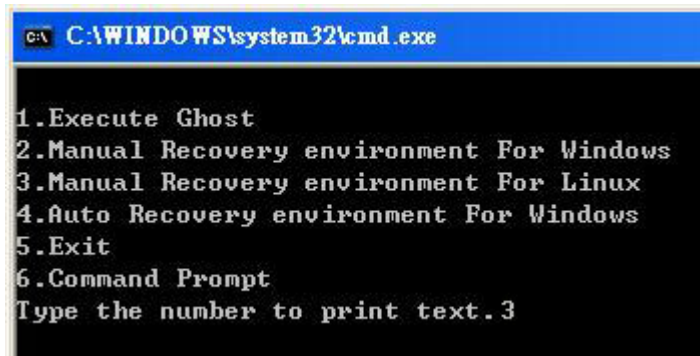

Figure D-30: Manual Recovery Environment for Linux
Step 4: **Build the recovery partition.** Press any key to boot from the recovery CD. It will take a while to launch the recovery tool. Please be patient. When the recovery tool setup menu appears, type <3> and press <Enter> (**Figure D-30**). The Symantec Ghost window appears and starts configuring the system to build a recovery partition. After completing the system configuration, press any key to reboot the system. Eject the recovery CD.